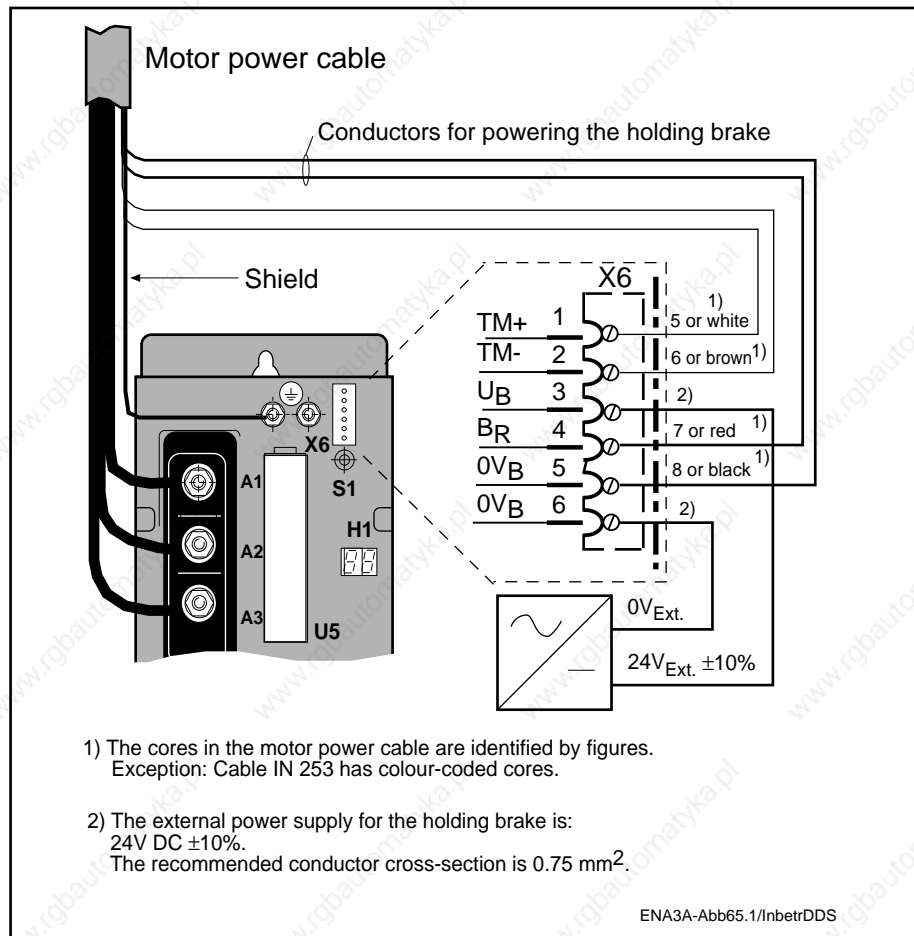
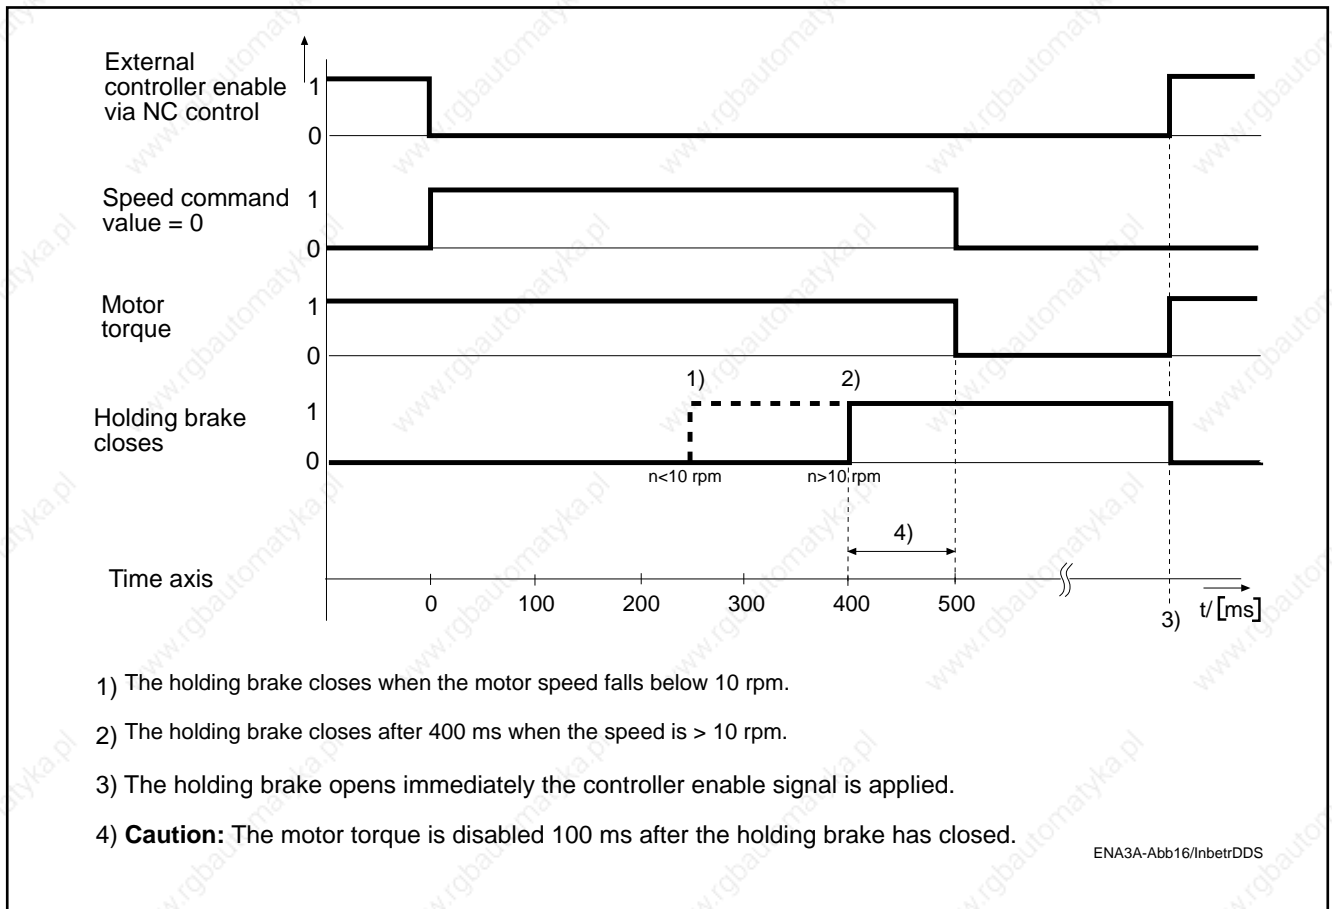
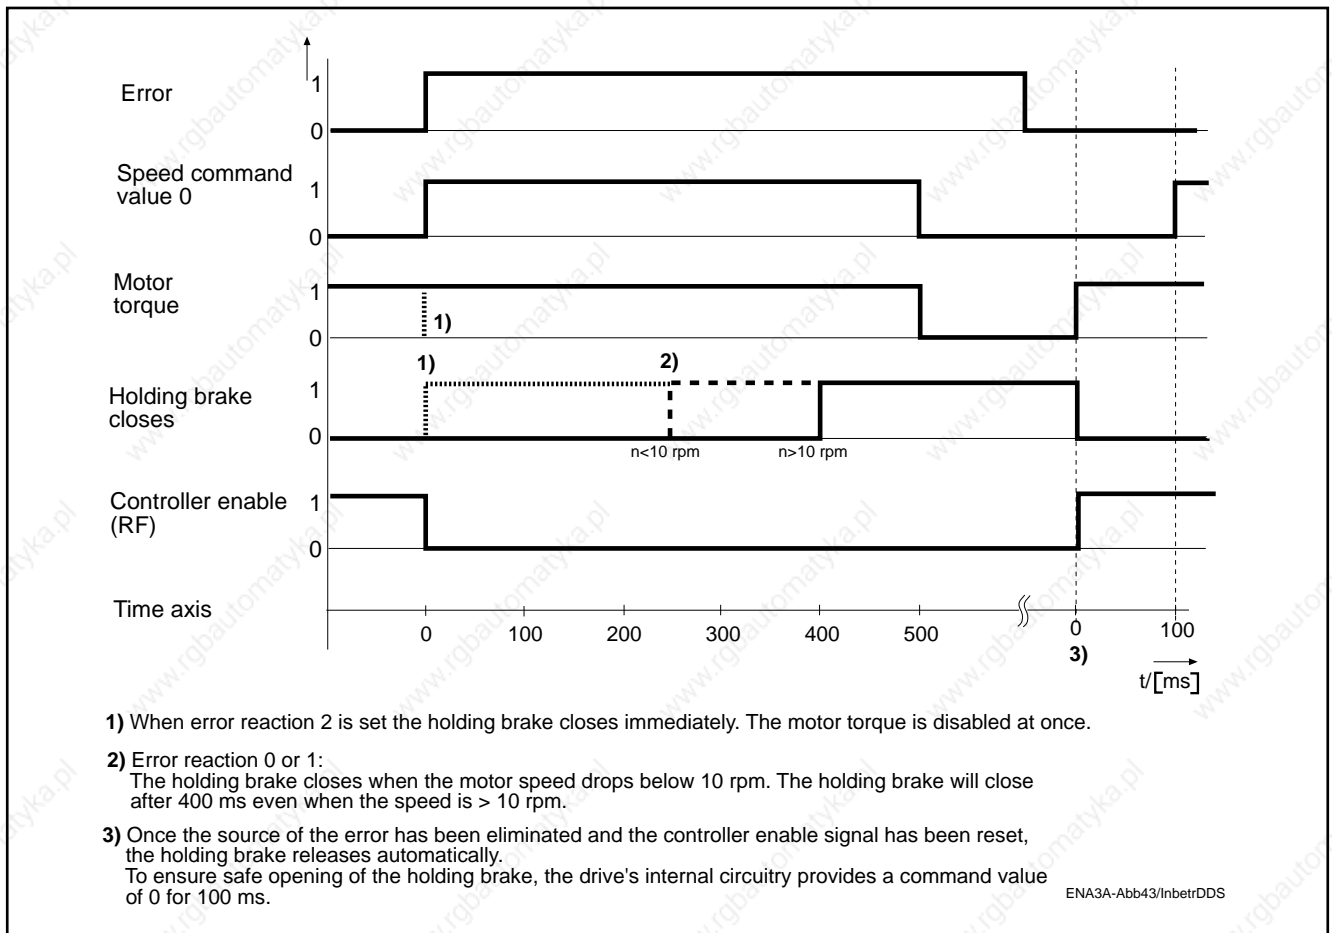

Fig. 64: Connecting up the holding brake to terminal block X6
Fig. 65: Time sequence of holding brake status corresponding to controller enable status
Fig. 66: Reaction of the holding brake under different error reactions.
When the holding brake is de-energized a force acts on the braking/armature disc of the servo motor, thus safely immobilizing the axis. The holding brake is activated by the drive controller according to the status of the controller enable signal (see Fig. 65) and the preset error reaction (see Fig. 66). To power up the holding brake, apply an DC voltage from an external source to the terminal block X6 on the drive controller (see Fig. 64).
Procedure: (see Fig. 64)
7. Reconnect the cores to X6 as shown in Fig. 64.